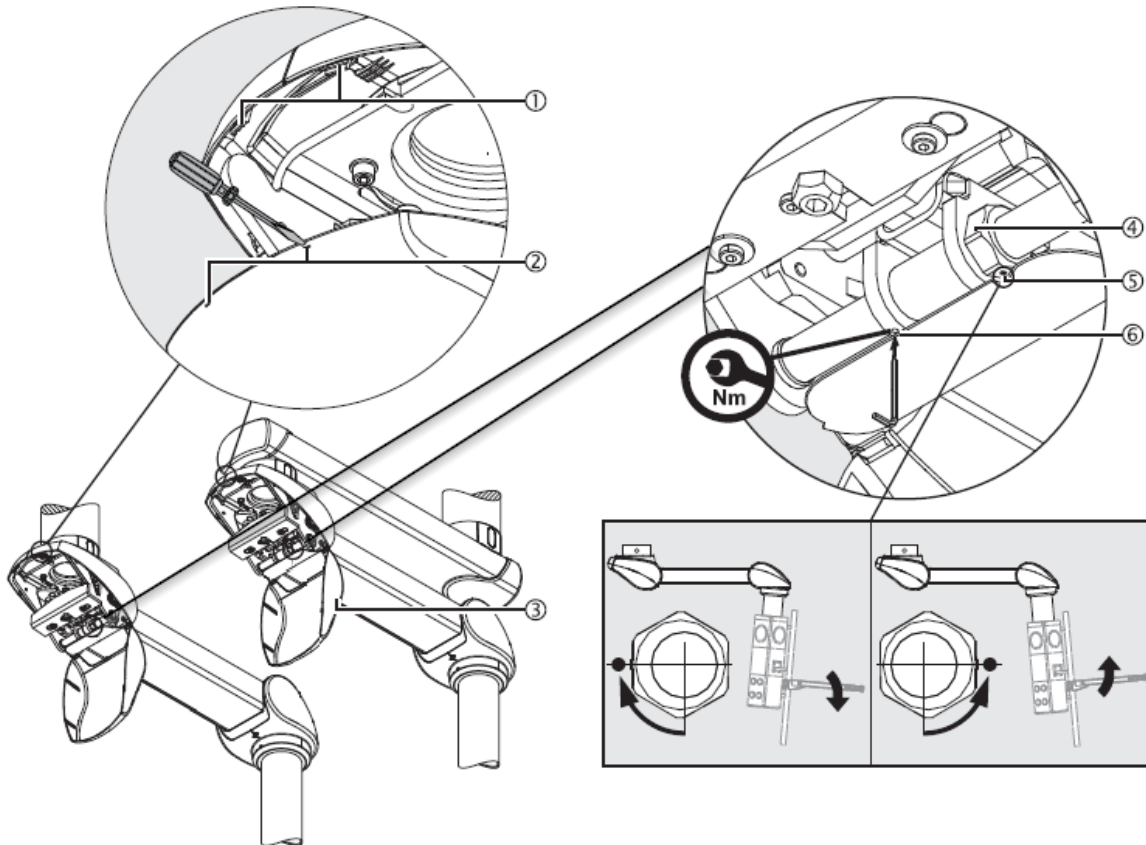

Fig.15 Correction of the vertical alignment of the CEMOR service head or monitor bracket
- Route the service head without exerting tension on the supply hoses ①.
- Fit the 4 M8 socket head cap screws ① into the 4 recesses provided in the upper part of the service head as shown in figure 15.
- For each M8 socket head cap screw ①, place 1 S10 lock washer ② (as illustrated in figure 15) so that the flat washer is seated between the upper seal of the service head (on the inside) and the corresponding hexagon nut ③.